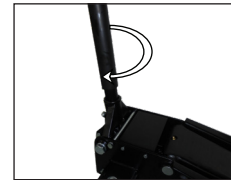

fig 7.
- Use the handle assembly to twist the release valve clockwise until tight (fig.7). Do not over-tighten.